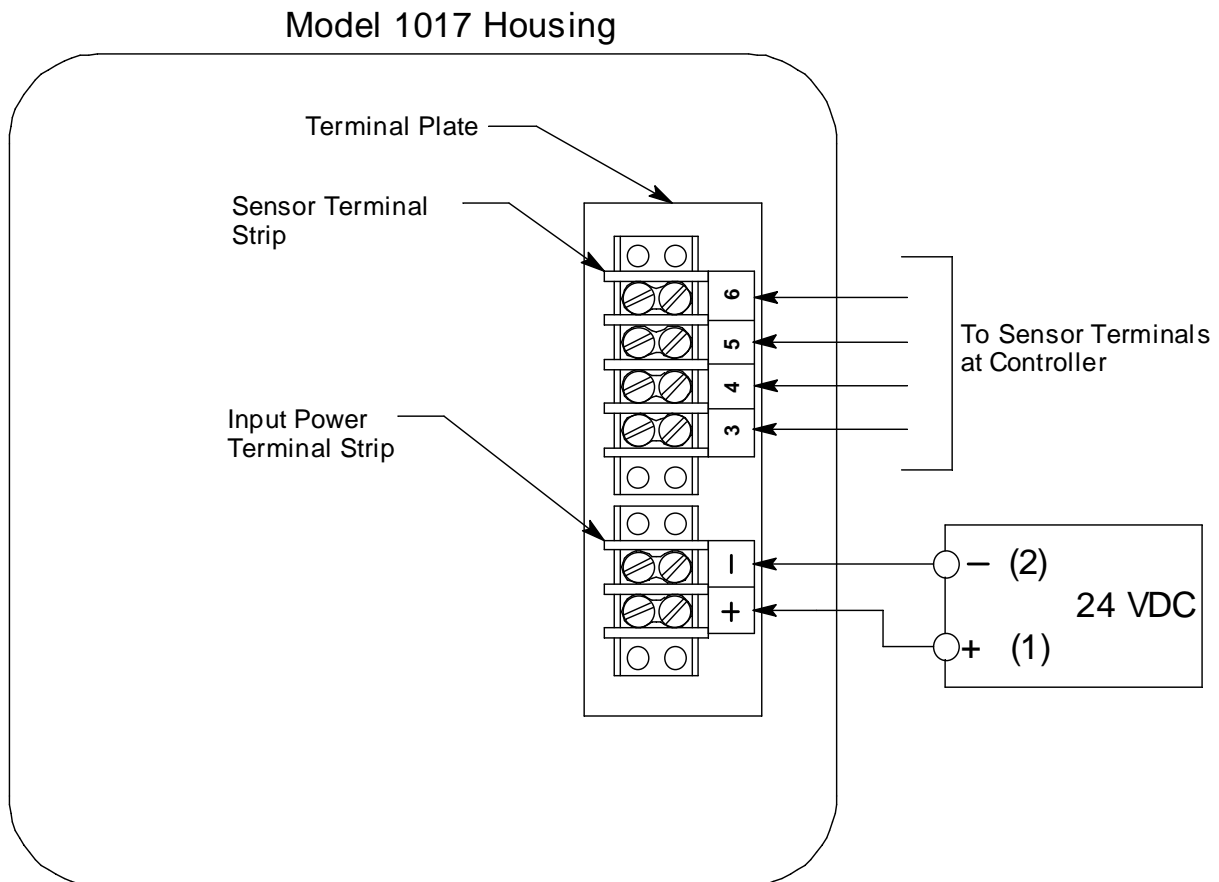

Figure 4: Wiring the Model 1017-04
4. Connect two wires to the input power terminal strips as shown in Figure 4.